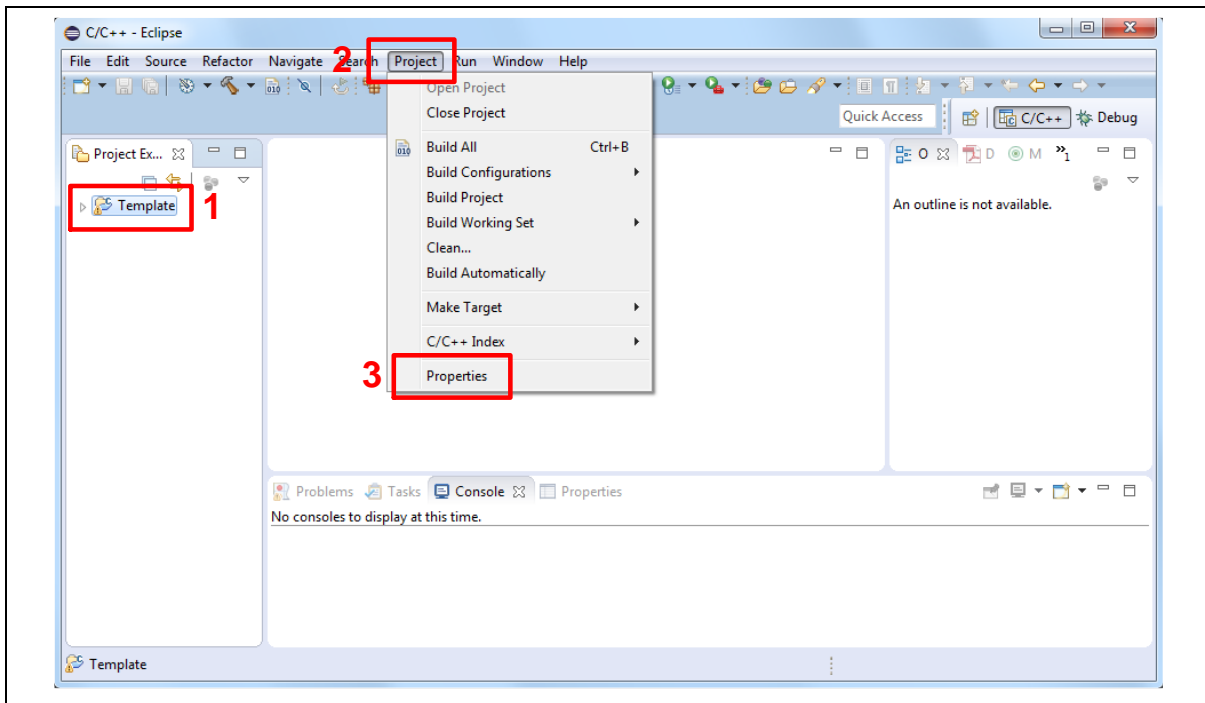

Figure 5.2-38 Open Project Properties Window
- (4) Click the “Template” project and find the project properties as shown in Figure 5.2-38.